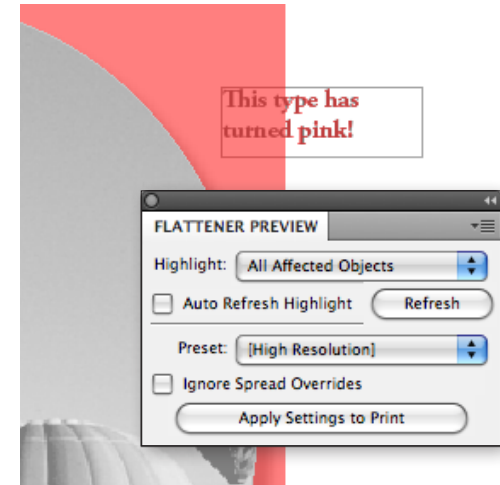

Figure 8: Figure shows Flattener Preview panel set to Affected Objects. Type has turned pink.
- 1 Put text and thin lines on a layer above any nearby transparency. If you don't, these elements will be rasterized or converted to vector clipping path outlines during the flattening process. You can spot potential problems by previewing your transparency effects in the Flattener Preview panel (Window > Output > Flattener Preview). In the Highlight menu, choose All Affected Objects (Figure 8). If type or fine lines appear in pink, they're affected by the transparency.